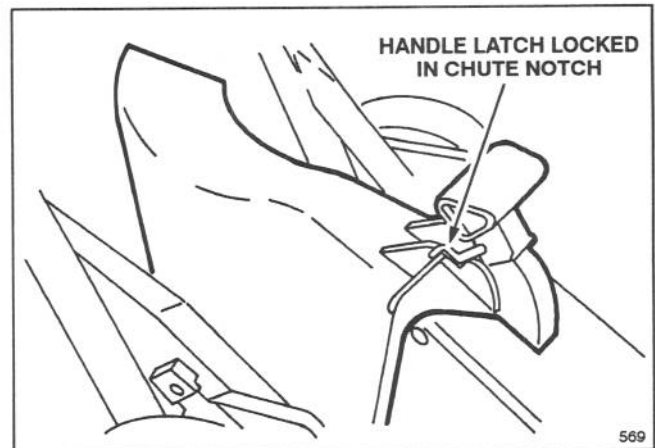

Figure 5
4. Pull discharge door handle backward until handle latch locks in chute notch (Fig. 5). Discharge door in mower housing is now open.
5. **REMOVING CHUTE**—Release control bar and wait for blade to stop. Lift up handle latch (Fig. 5) until it clears the chute notch and move handle forward. Lift chute off discharge tunnel.